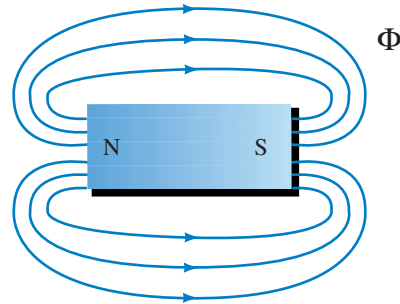

FIGURE 12–1 Field of a bar magnet. Flux is denoted by the Greek letter Φ .
Faraday’s flux concept (recall Putting It Into Perspective, Chapter 10) helps us visualize this field. Using Faraday’s representation, magnetic fields are shown as lines in space. These lines, called **flux lines** or **lines of force**, show the direction and intensity of the field at all points. This is illustrated in Figure 12–1 for the field of a bar magnet. As indicated, the field is strongest at the **poles** of the magnet (where flux lines are most dense), its direction is from north (N) to south (S) external to the magnet, and flux lines never cross. The symbol for magnetic flux (Figure 12–1) is the Greek letter Φ (phi).
Figure 12–2 shows what happens when two magnets are brought close together. In (a), unlike poles attract, and flux lines pass from one magnet to the other. In (b), like poles repel, and the flux lines are pushed back as indicated by the flattening of the field between the two magnets.